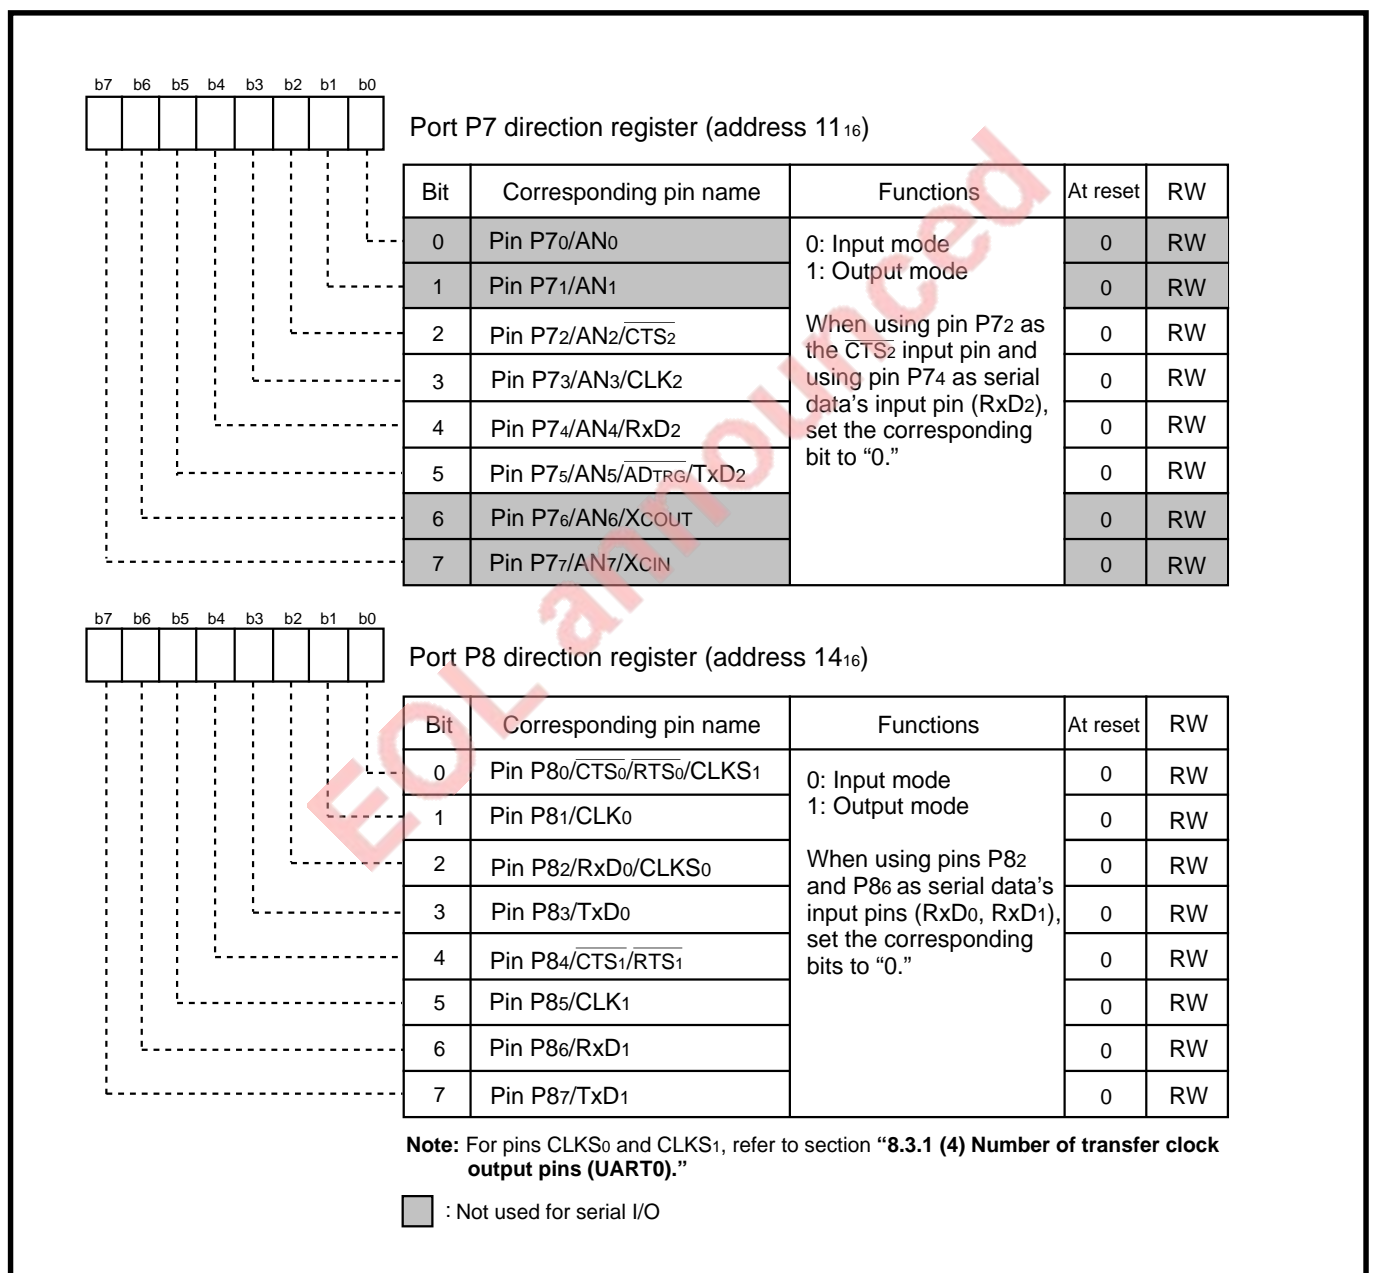

Fig. 8.2.16 Relationship between ports P7, P8 direction register and UARTi's I/O pins
I/O pins of UARTi are multiplexed with ports P7 and P8. When using the P74, P82 and P86 pins as serial data input pins (RxDi), set the corresponding bits of the ports P7 and P8 direction registers to “0” to set these ports for the input mode. When using the P72 pin as the  $\overline{\text{CTS}}_2$  input pin, set bit 2 of the port P7 direction register to “0” to set this port for the input mode. When using the P73, P75, P80, P81, P83–P85, and P87 pins as UARTi's I/O pins ( $\overline{\text{CTS}}_i/\overline{\text{RTS}}_i$ , CLKi, TxDi), these pins are forcibly set as the UARTi's I/O pins, regardless of the ports P7 and P8 direction register's contents. Also, as for CLKS0 and CLKS1, refer to section “8.3.1 (4) Number of transfer clock output pins (UART0).” Figure 8.2.16 shows the relationship between the ports P7, P8 direction registers and UARTi's I/O pins.